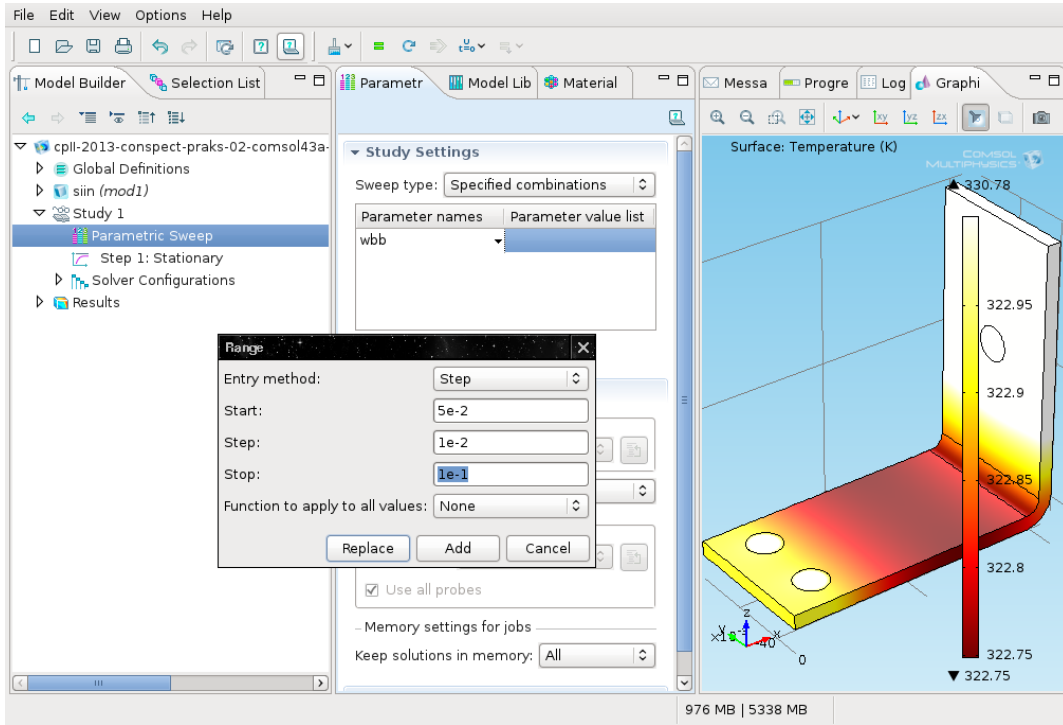

Figure 30: Range dialogue.
- click on the *Range* button under the table and enter the values in the dialogue window (Fig. 30):